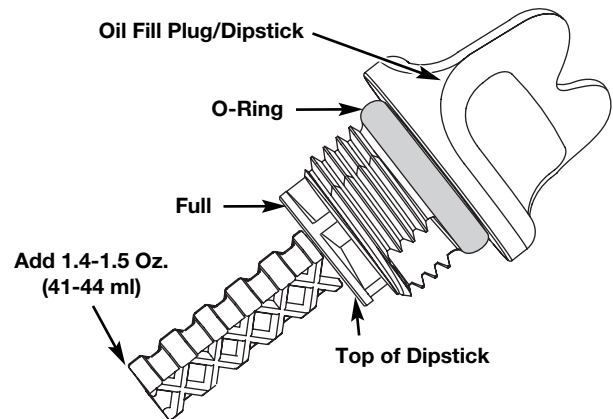

Fig. 19
- Remove the oil fill plug/dipstick and check the oil level. Oil should be up to the top of the dipstick (Fig. 19).